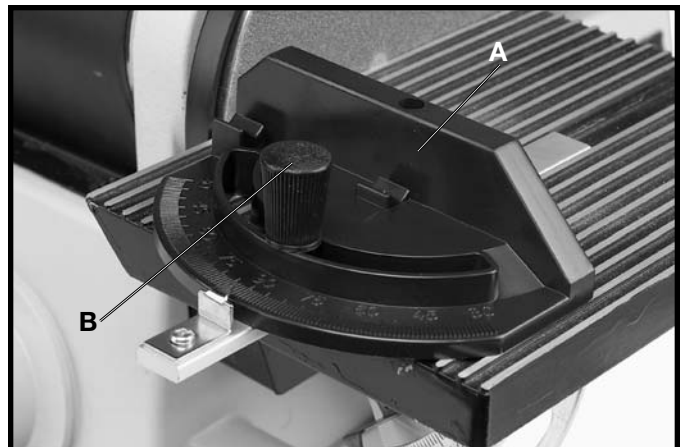

Fig. 35
A miter gage (A) Fig. 35, is supplied with your machine and is used with the disc table. The miter gage body (A) can be tilted right or left for angle or miter sanding by loosening lock knob (B), rotate miter gage body and tighten lock knob (B).